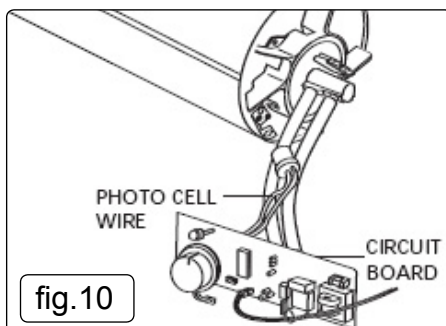

fig.10
**8.7. PHOTO CELL (See figs.10&11)**